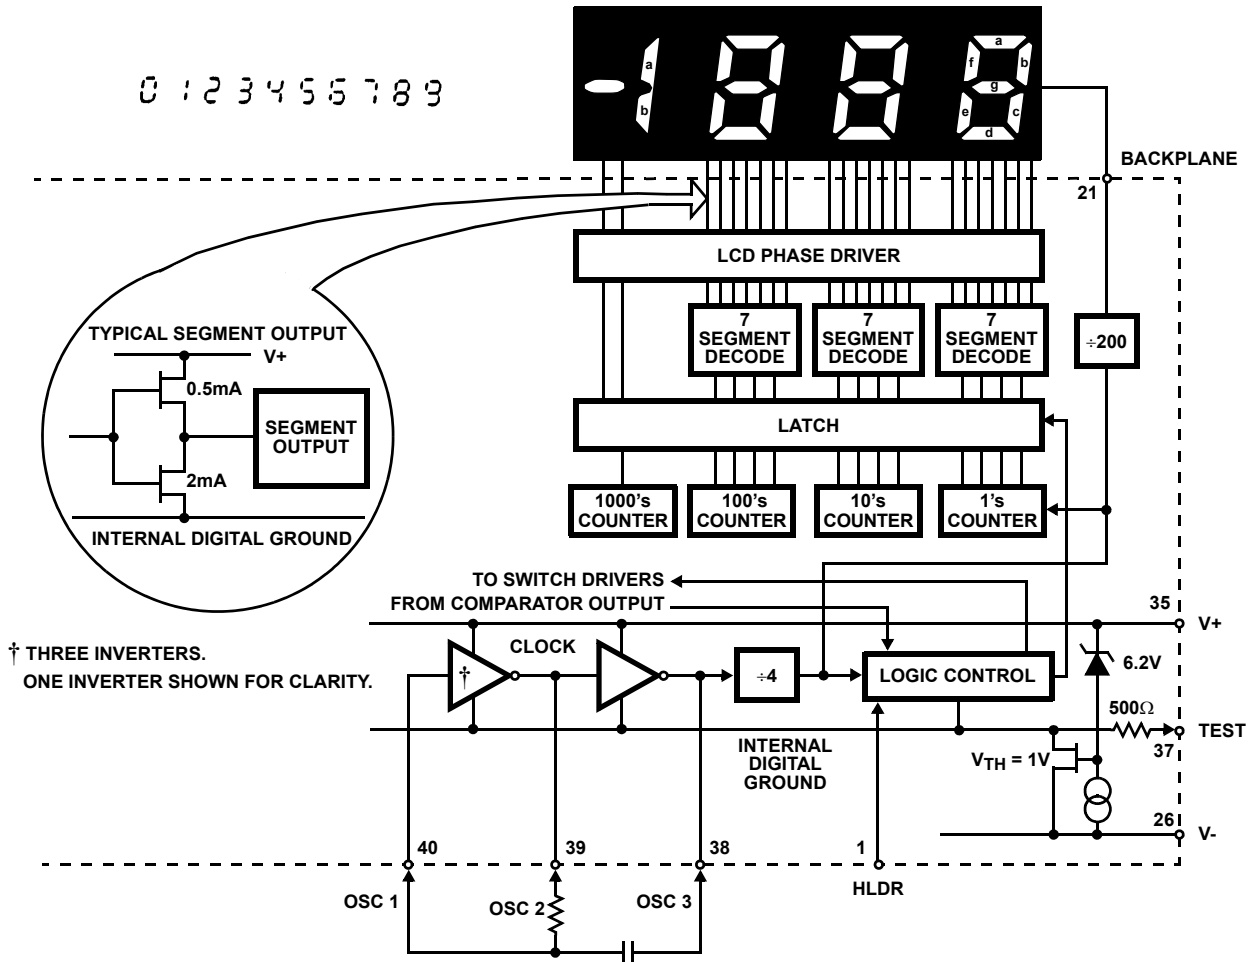

FIGURE 8. DIGITAL SECTION
Figure 8 shows the digital section for the ICL7126. An internal digital ground is generated from a 6V Zener diode and a large P-Channel source follower. This supply is made stiff to absorb the relative large capacitive currents when the back plane (BP) voltage is switched. The BP frequency is the clock frequency divided by 800. For three readings/second this is a 60Hz square wave with a nominal amplitude of 5V. The segments are driven at the same frequency and amplitude and are in phase with BP when OFF, but out of phase when ON. In all cases negligible DC voltage exists across the segments. The polarity indication is “ON” for negative analog inputs. If IN LO and IN HI are reversed, this indication can be reversed also, if desired.